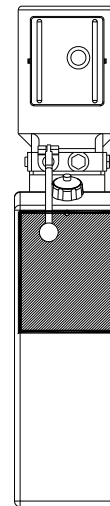

Fig 21 – Power Unit Decal
- 47) Place the Caution, Warning and Safety Instructions decals seen on page 4, on the power unit as shown, **Fig 21**.